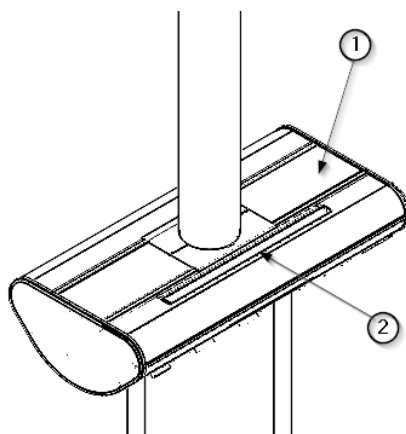

Fig.4 Position of indirect light
- Unscrew the 2 M4 x 10 countersunk screws ① DIN 935 using a Phillips screwdriver as shown in figure 4.
- Remove the polycarbonate cover ② and store it in a safe place. The lighting module is visible.
- Remove the 4 socket head cap screws M5 x 10 ③ DIN 912 using an Allen tool. The lighting module is now loose.
- Disconnect the quick connector from the LED strips ⑤. The module can now be turned over and the controllers ⑦ and their terminal strip can be seen.
- Disconnect the power supply to the controllers ⑦ from the terminal strip.
- Unscrew the M4 x16 hex screws ⑧ DIN 933 by releasing the tabs ⑥ holding the controllers ⑦.
- Fit the new controllers ⑦ and secure them with the tabs ⑥ by screwing in the hexagonal screws ⑧.
- Unscrew the M4 x16 hex screws ④ DIN 933 releasing the LED strips ⑤.
- Fit the new LED strips and secure them with the hexagonal screws ④.